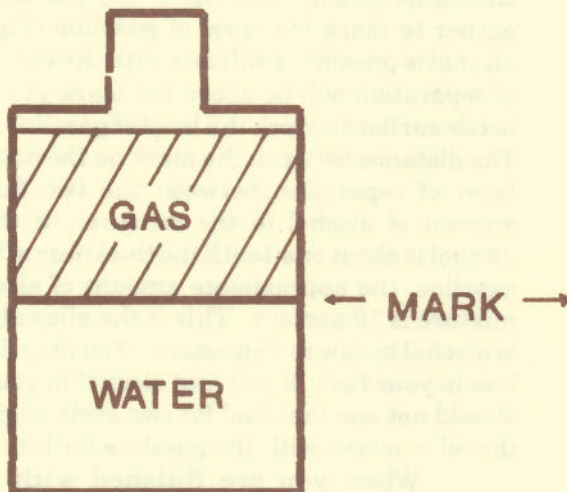
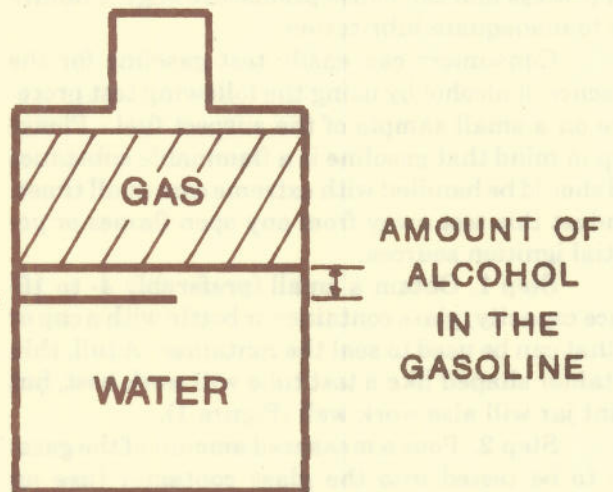

FIGURE 3
FIGURE 4
**Step 3.** Pour an equal amount of clean water into the container with the gasoline. Cap the container and shake the mixture to mix well. Allow the mixture to settle and separate for about one minute. You should see two distinct layers of fluid in your container. The gasoline layer is lighter than water and should form the top layer. The water should form the bottom layer. There should be a very distinct line where the two layers meet about the center of the container. If no alcohol is present in the gas, the layer of separation should be at the same mark you put on the bottle earlier to mark the level of gasoline (Figure 3). If alcohol is present, it will mix with the water. The line of separation will be above the mark you put on the bottle earlier to mark the level of gasoline (Figure 4). The distance between the mark on the bottle and the layer of separation between the two fluids is the amount of alcohol in the mixture. If the layer of alcohol is about one-tenth the thickness of the layer of gasoline, the approximate amount of alcohol in the mixture is 10 percent. This is the allowable amount of alcohol by law in Tennessee. You may find more or less in your fuel. If you find alcohol in your fuel, you should not use that fuel for two-cycle engines where the oil is mixed with the gasoline for lubrication.